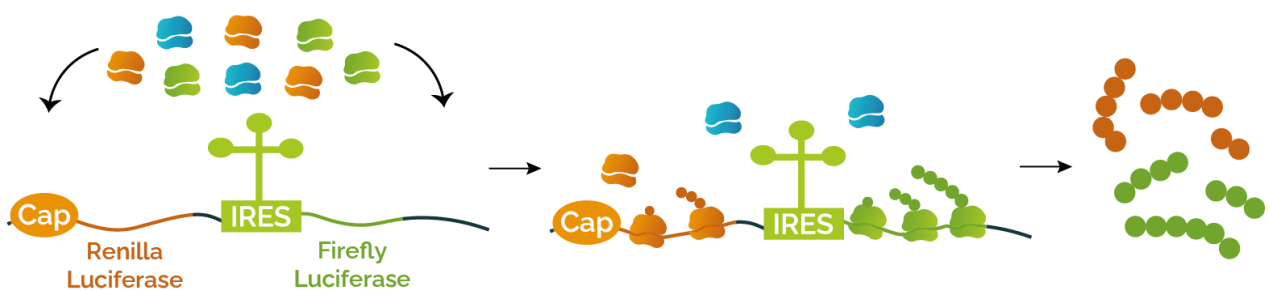

Fig. 1 ReCet™ 5'cap and IRES mRNA translation
- Protein translation is optimized with 5'cap mRNA to cover most of the RNA drug discovery processes. IRES-based RNA can be translated as well but less efficiently, according to the cell-specific physiological mechanisms (Fig. 1).